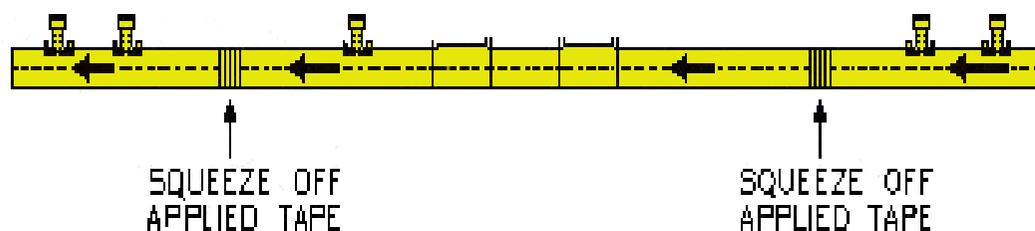

Figure 49- Squeeze-Off Completion
4. Place 'Squeeze off applied' marker tape onto the pipe see Figure 49.